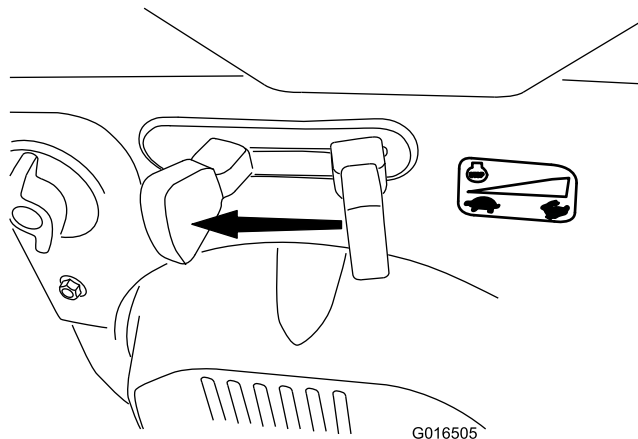

Figure 21
1. Move the throttle to the SLOW position, and then to the STOP position (Figure 21). You can also shut off the engine by pulling the ignition key outward to the middle position.